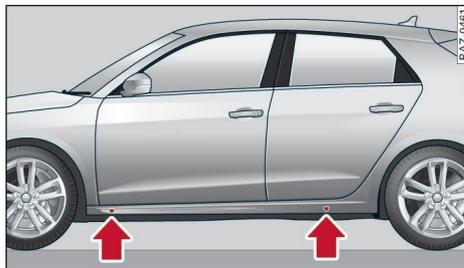

Fig. 154 Sills: markings
- ▶ Locate the marking on the door sill closest to the wheel being changed ⇒ Fig. 154. The jacking point is located behind the marking on the door sill.
- ▶ Wind up the jack underneath the jacking point on the door sill until the claw of the jack ① completely surrounds the seam on your vehicle.
- ▶ Align the jack so that its claw ① fits around the seam and the base plate of the jack ② is flat on the ground. The base plate ② must be positioned vertically underneath the jacking point ①.